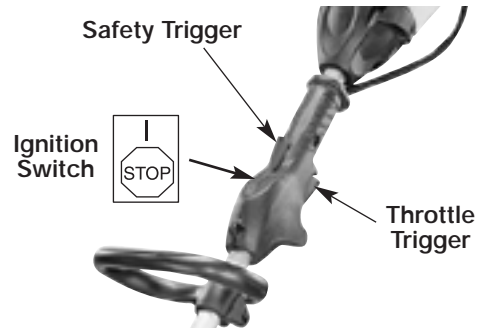

Fig. 5
2. Move the ignition switch to the Run position (Fig. 5).
5. Grip the handle firmly and press the safety trigger and press/squeeze the throttle trigger to the Full Throttle position (Fig. 5).
1. Move the ignition switch to the Run position (Fig. 5).
3. Grip the handle firmly and press/hold the safety trigger. Then press the throttle trigger to the Full Throttle position (Fig. 5).